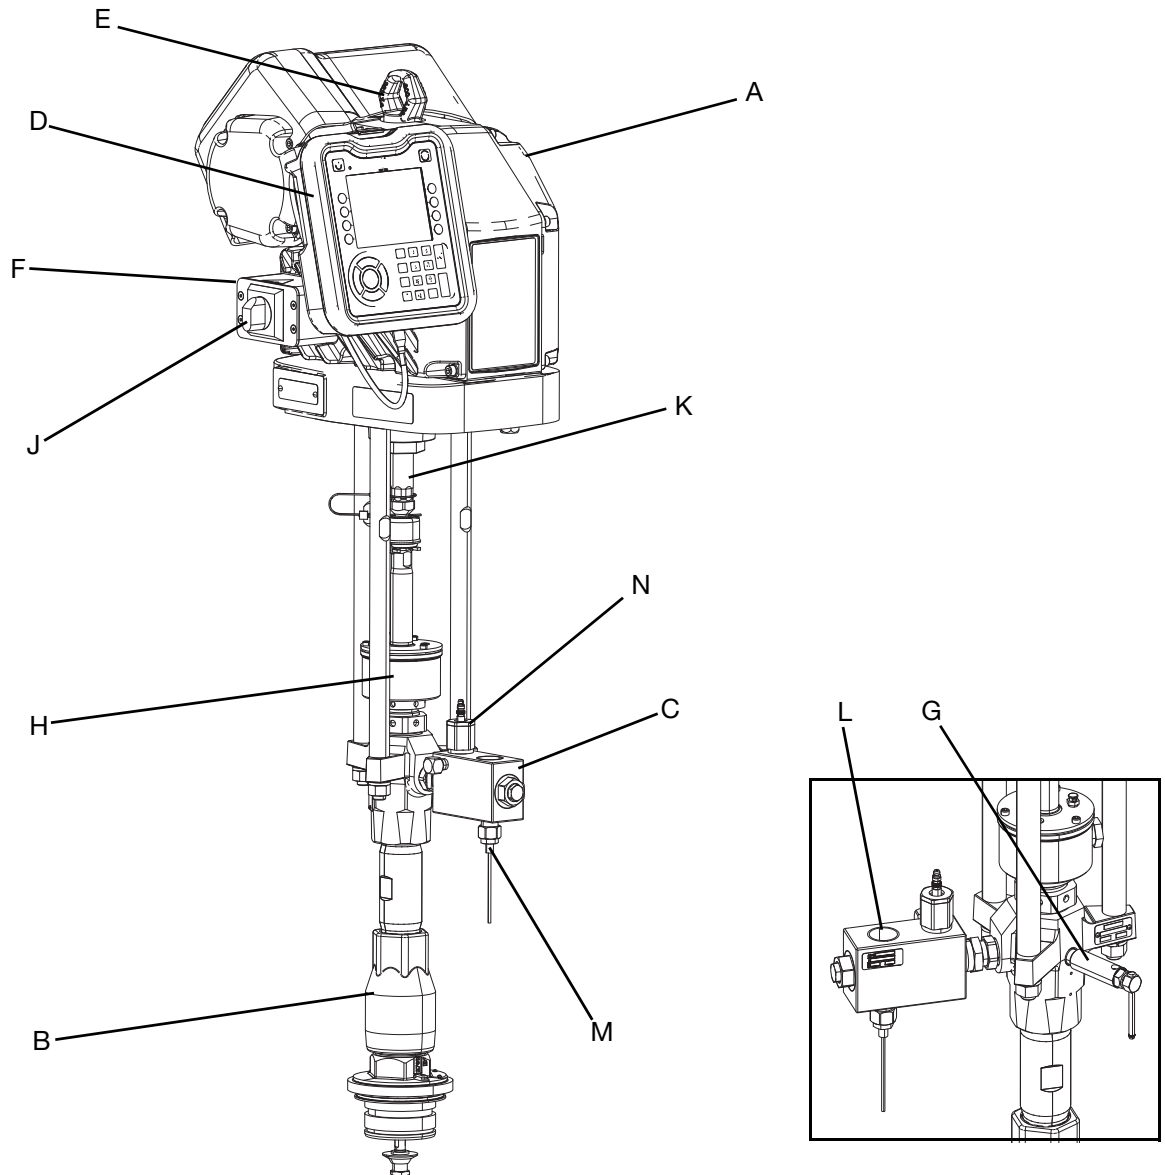

FIG. 1: E-Flo SP Components
Attach a chain or hook at the proper lift location. Lift off the pallet using a crane or a forklift. See the lift ring (E) in **Fig. 1** on page 7.